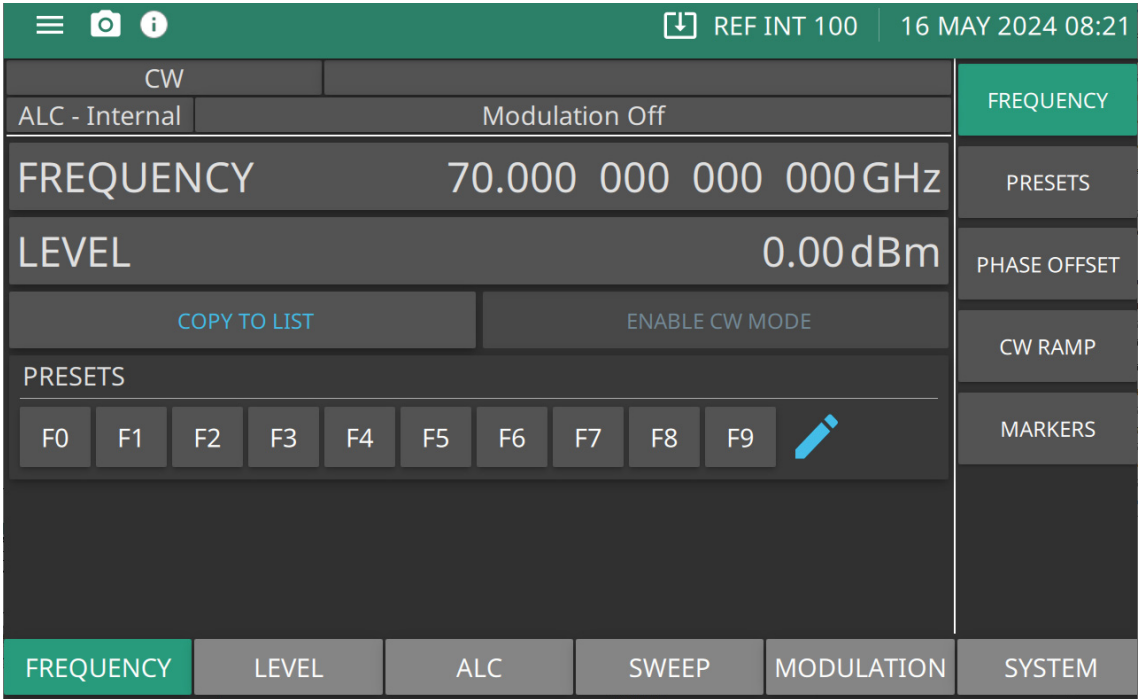

Figure 3-21. FREQUENCY Menu
- a. Press FREQUENCY. The Frequency menu is displayed as shown in Figure 3-21.